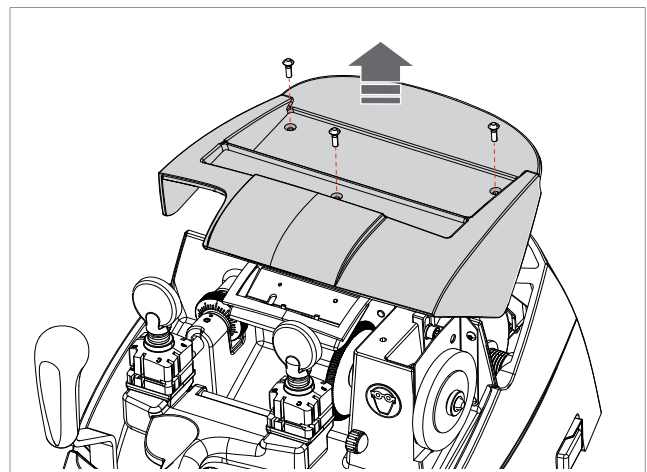

Fig. 50
- 2) Loosen the 3 screws (M1) and remove the top cover (M) (Fig. 50).